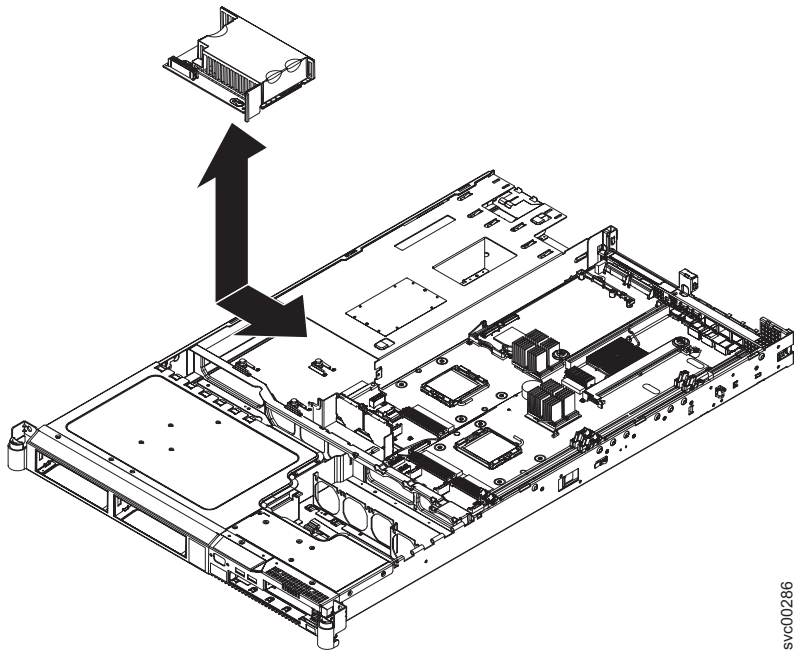

Figure 166. SAN Volume Controller 2145-8G4 power backplane
5. Disconnect the power supplies from the power-supply backplane, as shown in Figure 166.